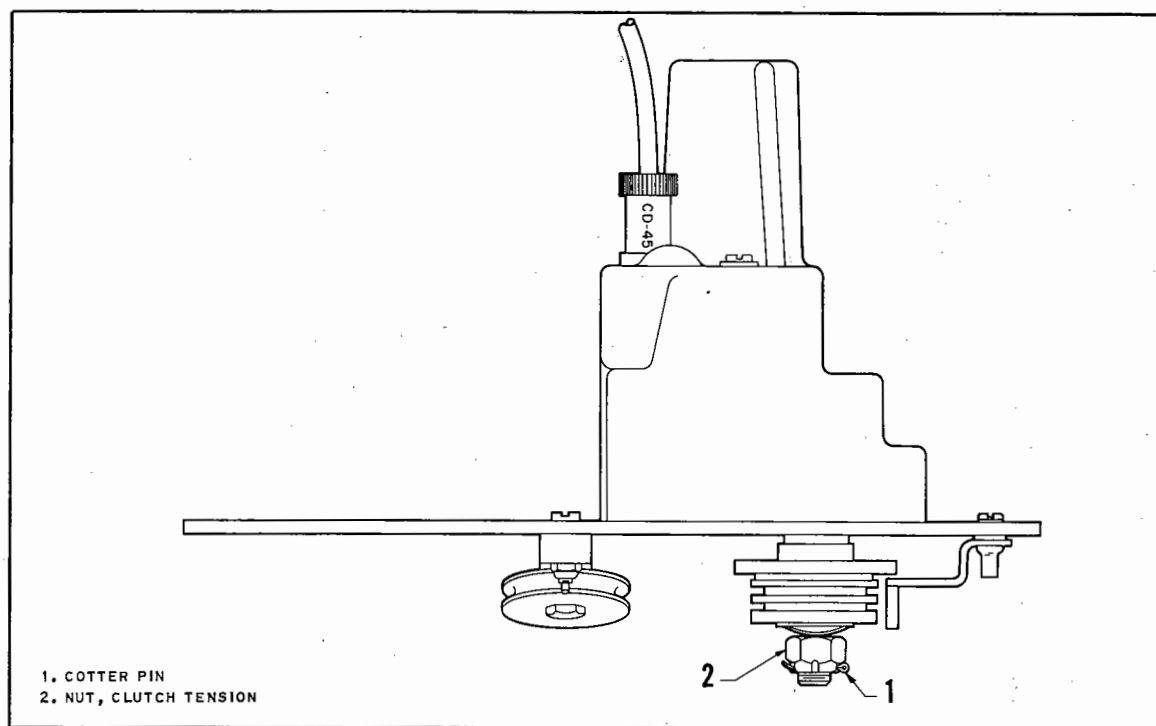

Figure 16-2. Clutch Adjustment Detail
- e. To adjust clutch, refer to Figure 16-2 and proceed as follows: